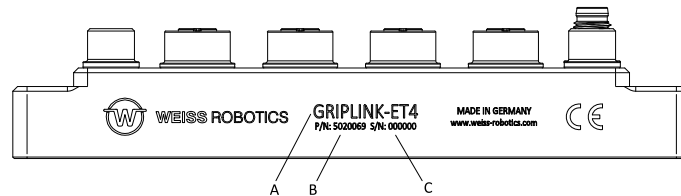

Figure 3: Nameplate
The nameplate (Figure 3) is located on the side of the GRIPLINK Controller and contains the serial number (C), part number (B) and the exact type designation (A).